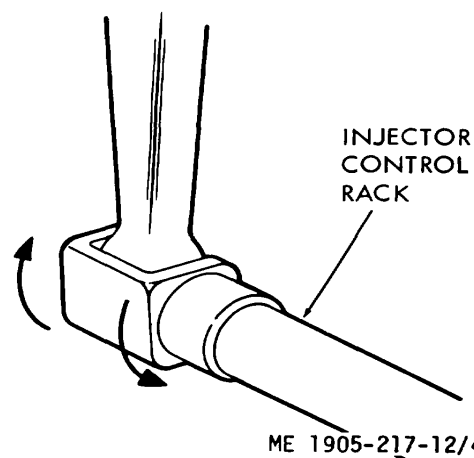
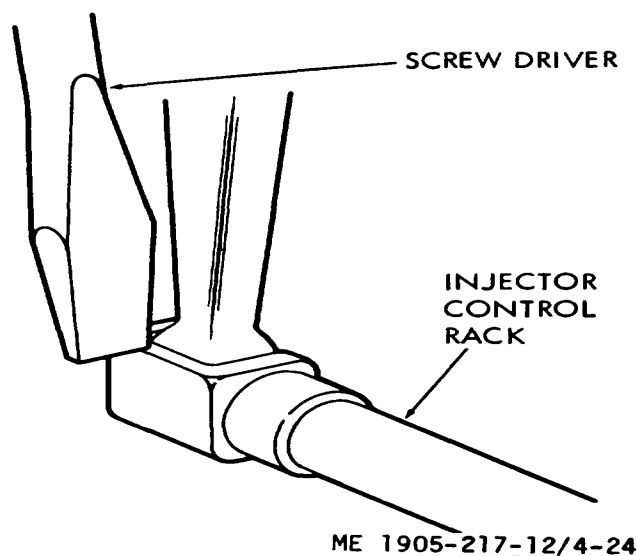

Figure 4-23. Checking rotating movement of injector control rack.
Figure 4-24. Check injector control rack "spring".
(5) To be sure the control lever is properly adjusted, hold the speed control lever in the maximum speed position and press down on the injector rack with a screw driver or finger tip and note "rotating" movement of the injector control rack (fig. 4-23) when the speed control lever is in the maximum speed position. Hold the speed control lever in the maximum speed position and using a screw driver, press downward on the injector control rack. The rack should tilt downward (fig. 4-24) and when the pressure of the screw driver is released, the control rack should "spring" back upward.
(6) If the rack does not return to its original position, it is too loose. To correct this condition, back off the outer adjusting screw slightly and tighten the inner adjusting screw slightly.
(7) The setting is too tight if, when moving the speed control lever from the idle to the maximum speed position, the injector rack becomes tight before the speed control lever reaches the end of its travel (as determined by